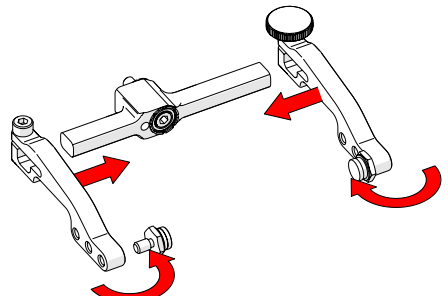

Fig. 124 - Attach arms & move buttons
5. Place the pivot buttons on the inside of the probe holder arms (Fig. 124) using a 3/8 in wrench (Fig. 52).